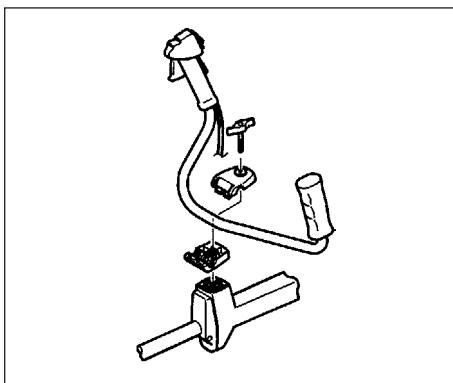

Fig.1-3C
NOTE for CG40EYA (TP) (Fig. 1-3C, 3D)